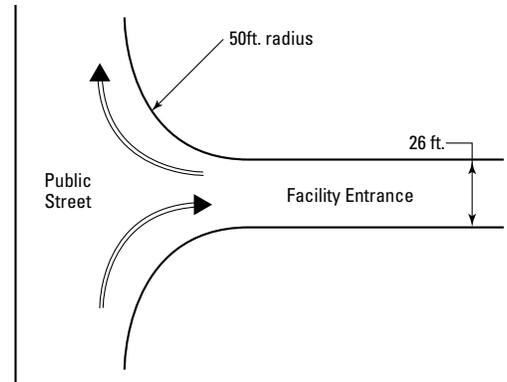

Fig. 5
- Right angle turns onto the site that has a minimum inside radius of 26' and a minimum outside radius of 50' (Fig. 5).
- One-way access roads that are at least 13' wide and two-way roads that are at least 26' wide (Fig. 5).